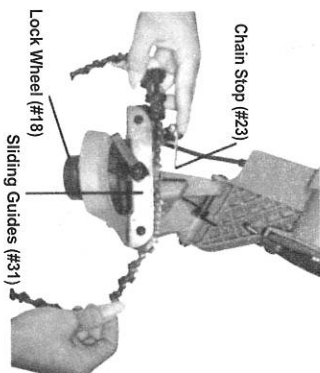

FIGURE 6
2. Lift up the **Chain Stop(#23)** and secure the chain in the **sliding Guides (#31)**. See FIGURE 6.